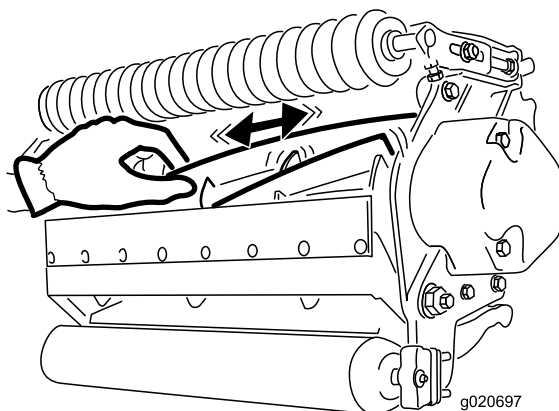

Figure 30
2. Using a rag or a thickly padded glove, hold on to the reel blade and try to move the reel assembly side to side (Figure 30).